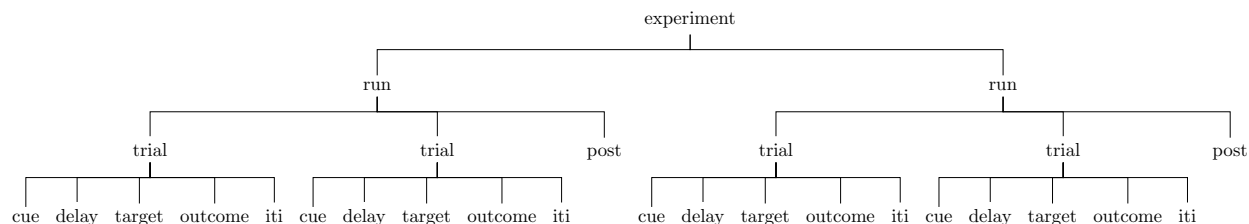

Figure 15: Monetary Incentive Delay Task Hierarchy
While some experiments can be as simple as a trial that consists of a stimulus and an ITI, many are more complicated. Take, for example, a classic monetary incentive delay task (Figure 15). In this experiment, participants can win money if their reaction time is fast enough on a button pushing task. Within each trial there is a cue where the participants are told what condition they are in (e.g. how much money they could win). This is followed by a delay period where they are waiting for the target. Then the target appears and participants must push a button as fast as they can (while holding still!). After the target, they are notified whether they pushed the button fast enough. Finally, this is followed by an ITI where participants are waiting for the next trial. Keep in mind that there are usually different trial types as well, this is where the **types** column of the Event Definition table will come in to play.
1. Create an experiment in the Design Explorer that reflects the hierarchy in Figure 15. For this exercise, create 2 runs that consist of 2 trials each. Each trial will need a cue, delay, target, outcome, and ITI event. Finally, enter a post run fixation of 10 seconds after each run. While this exercise only includes 2 trials per run, keep in mind that there are many many more trials in a real experiment.